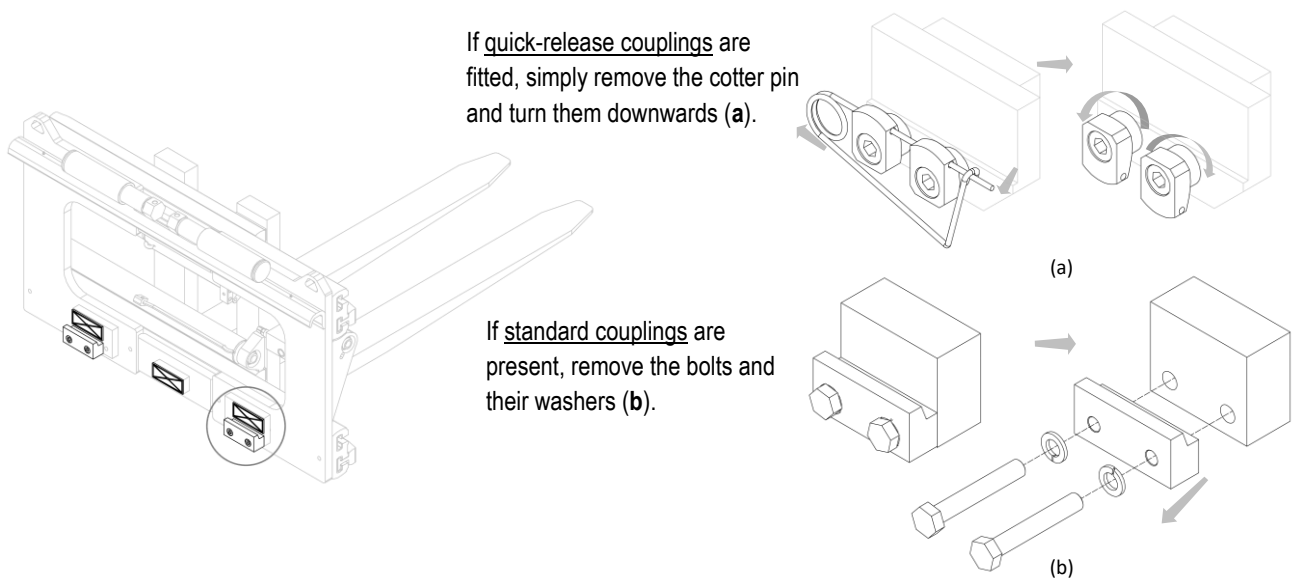

Figure 6
5. Remove the lower couplings from the equipment and grease the sliding gibs (see *Figure 6*).